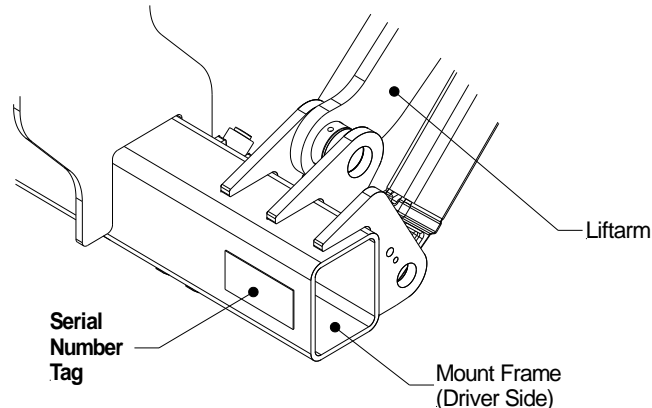

Fig.1
1) Refer to the serial number tag on the liftgate, the tag can be found on the driver side of the Mount Frame, as shown in *Fig.1*.